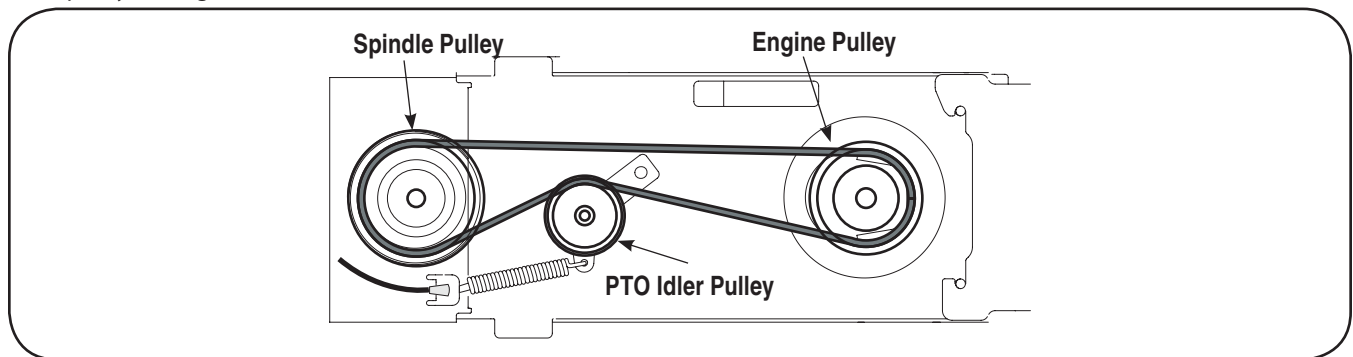

Figure 3-19
1. Attach and route the upper drive belt around the engine pulley and spindle pulley, routed to the INSIDE of the PTO idler pulley on the undercarriage. Make sure the belt is routed inside of the belt keeper pins found around the spindle pulley and engine pulley. See Fig. 3-19.